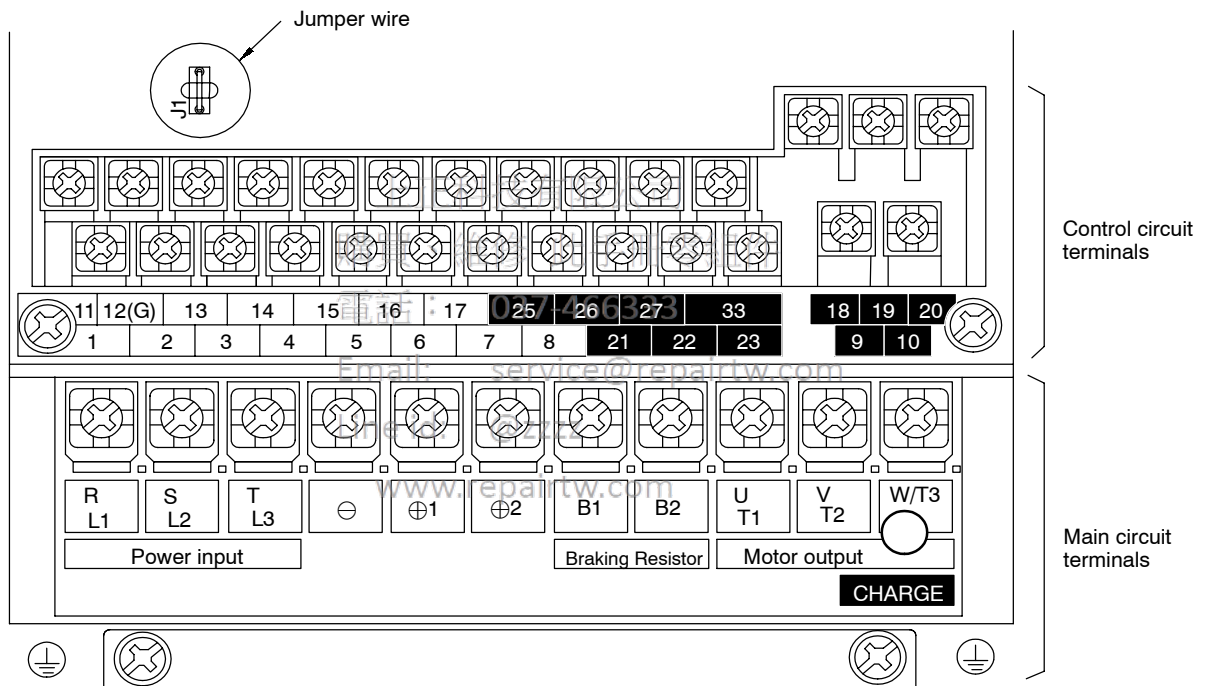

Fig 6.1 Terminal Arrangement of a 200 V Class Inverter of 0.4 kW
- When the terminal is being used as a voltage input terminal (setting 0 or 1), jumper J1 must be disconnected on the control board. (See Figure 6.1.) The terminal's input resistor will be destroyed if the terminal is used for a voltage input with jumper J1 connected.